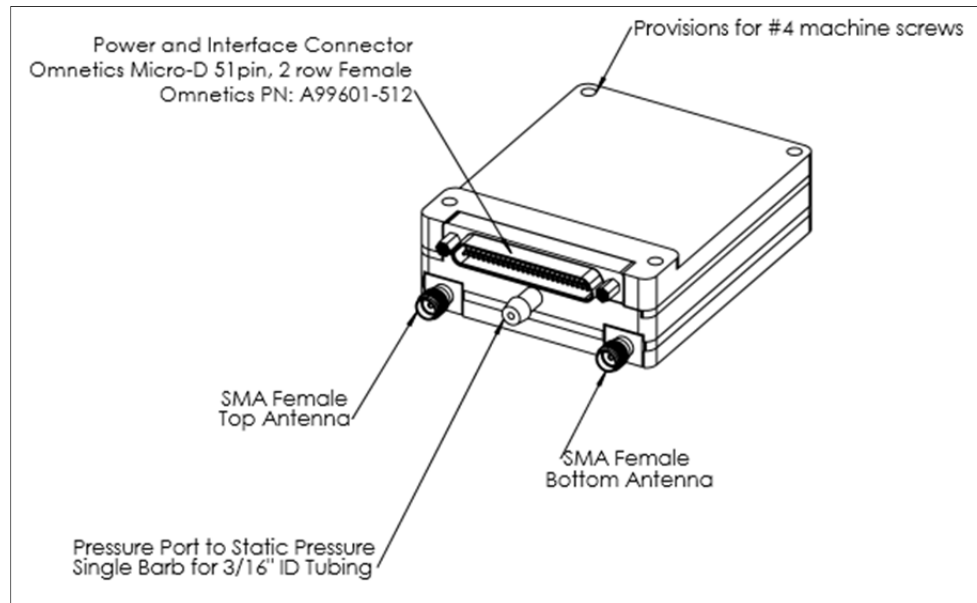

Figure 6-2 Mechanical Connections
- Two Transponder/ADS-B L-Band SMA antenna connectors. Only the bottom antenna connector is used by Range Finder. See the Bottom Antenna connector in Figure 6-2, located on lower right side when facing main connector.
The locations of these connectors/ports are shown in Figure 6-2.